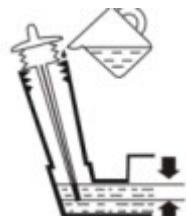

Figure 17
2. Loosen the dipstick and read the oil level. See fig 17
3. The oil level shall be between the marks "HIGH" and "LOW". See fig 17
4. If necessary fill with oil up to the FULL mark .See fig.17.